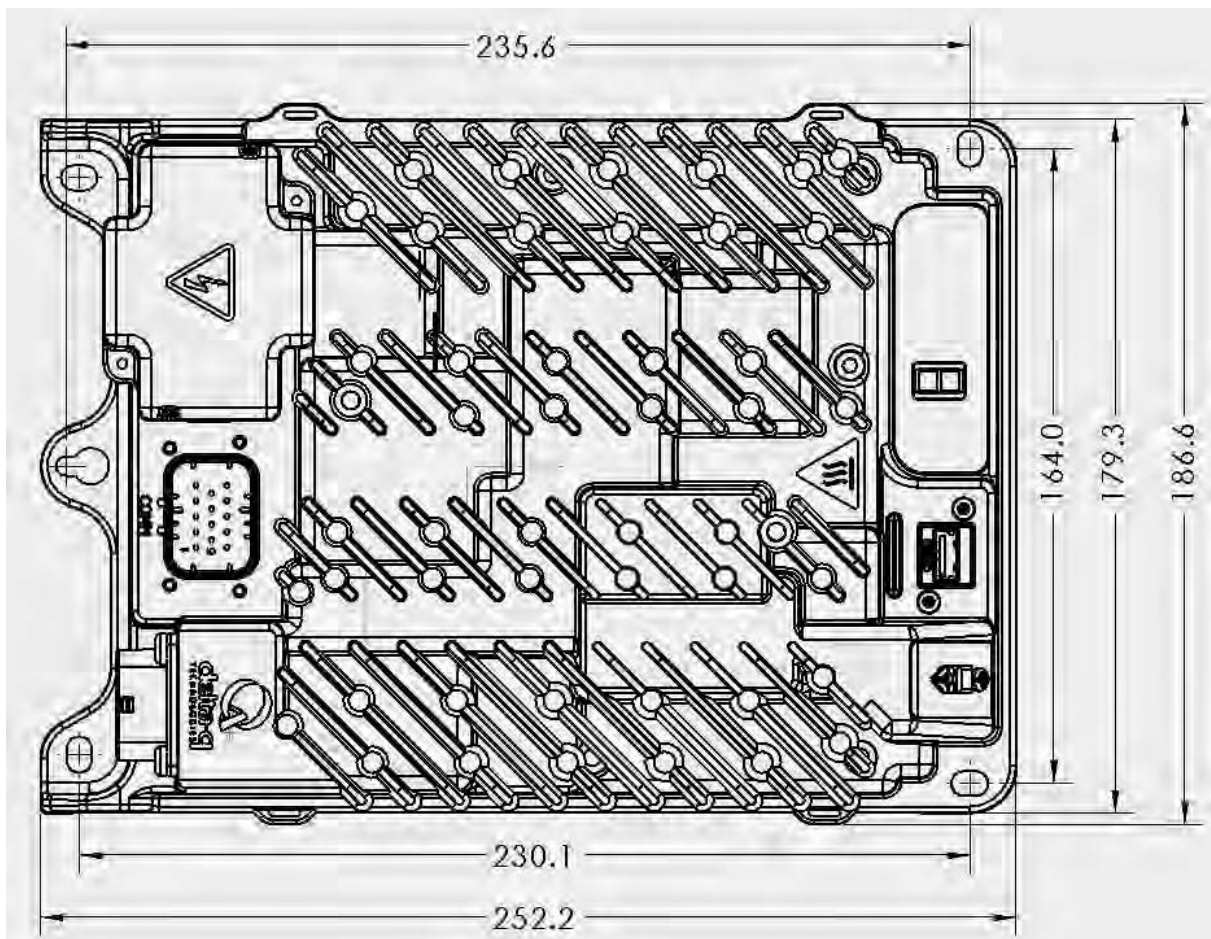

Figure 11. Charger Mounting Points
- ✚ Mount the charger securely using the mounting points shown in Figure 11.
The IC650 Charger has either two or three connectors on the rear panel depending on its configuration. The Comm model with all connectors is shown in Figure 11. The Base model does not have a Comm connector, but “Comm” will still be visible on the charger because of the enclosure casting process.